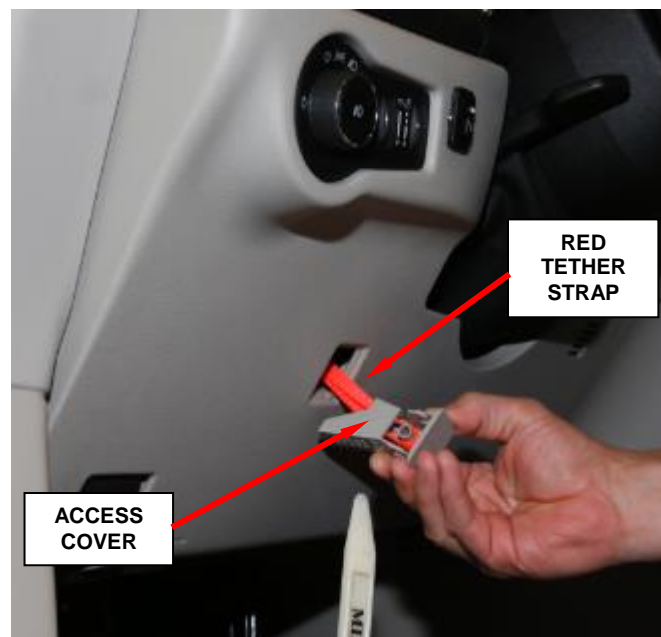

Figure 2 – Red Tether Strap
3. The Manual Park Release access cover is connected to a red tether strap (Figure 2).